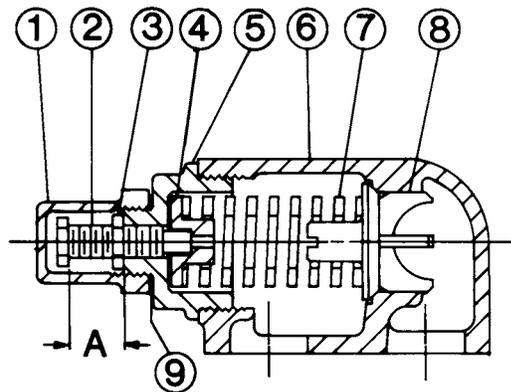

FIGURE 11
2. Measure and record the length of extension of the adjusting screw, See (A) Figure 11.